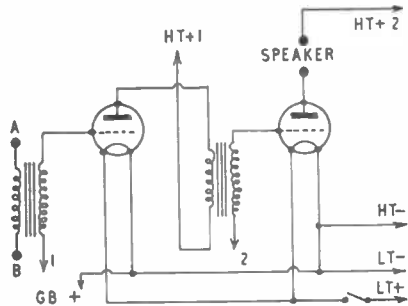
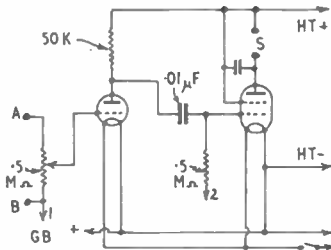

Fig. 3—2-Valve amplifier
Fig. 4—Volume Control & R.C.C.
A volume control is desirable with a 2-valve amplifier, and can be provided by wiring in a  $\frac{1}{2}$  megohm potentiometer. When resistance coupling is used, this can be wired as in Fig. 4. If a transformer is fitted, wire outer tags of the control to the transformer secondary, and slider to valve grid.
Fig. 4 also shows Resistance Capacity Coupling between valves. This is not quite so loud as transformer coupling, but using a pentode output valve helps restore volume. A circuit such as that in Fig. 4 is particularly cheap to build, as no transformers at all are wanted. With 1.4 V valves, the anode load resistor may be increased from 50,000 ohms to 100,000 or 200,000 ohms, with advantage.
The 2-valve circuits will give louder results, and are also suitable for 78 r.p.m. records with a general purpose magnetic pick-up. This pick-up would be wired to (A) and (B) in Fig. 4. If Fig. 3 were to be employed, the first transformer is omitted, the pick-up